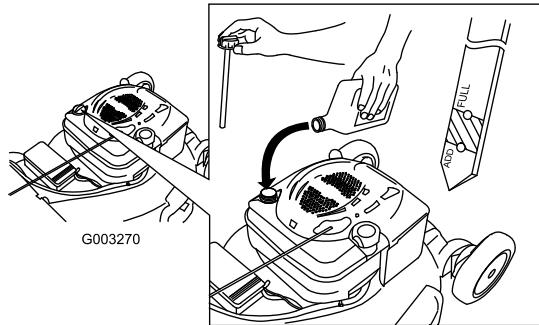

Figure 7
1. Remove the dipstick (Figure 7).